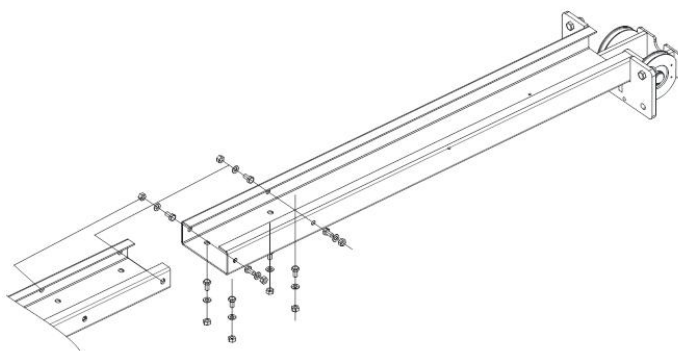

Figure 6
The safety information described in this manual applies to the lift (Figure 6) and warns of unsafe and dangerous situations. Warning labels and safety warnings should be kept clean. If they fall off or are damaged, they should be replaced immediately
- Connect the two sections of the overhead bar according to Figure 6, and connect the two ends of the overhead bar to the two columns according to Figure 7